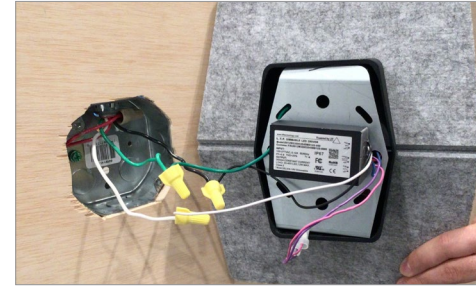

Fig.2: Wiring for fixture, driver and junction box.
Use (3) wire nuts to wire the Live (Black wire) and Neutral (White wire) from driver to junction box and Ground (Green wire) from fixture to junction box. If dim wires are not necessary, crimp wires (Fig.2).